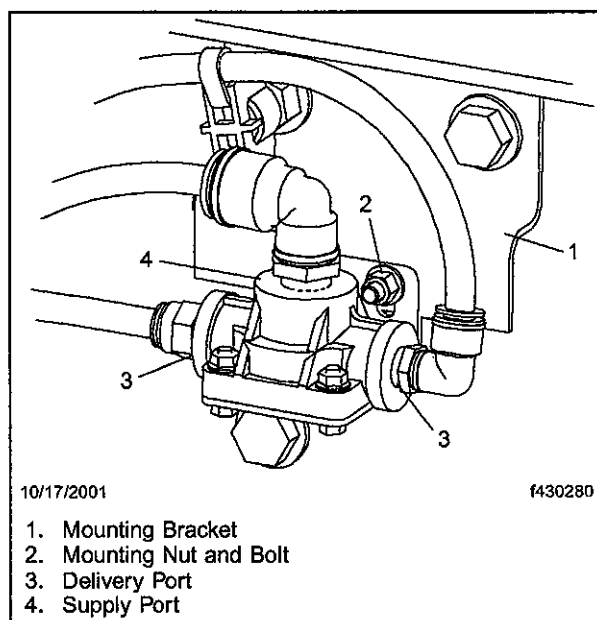

Fig. 1, Quick Release Valve Mounting (typical)
6. Remove the mounting bolts and the valve. See **Fig. 1**.